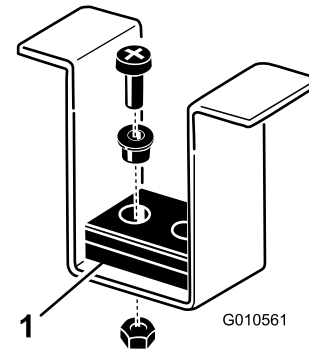

Figure 10
8. Check to make sure that the front height-of-cut pins are resting properly on the frame cushions (Figure 10). If the pins are not resting properly, place a shim or shims under the cushion to raise it for proper alignment.